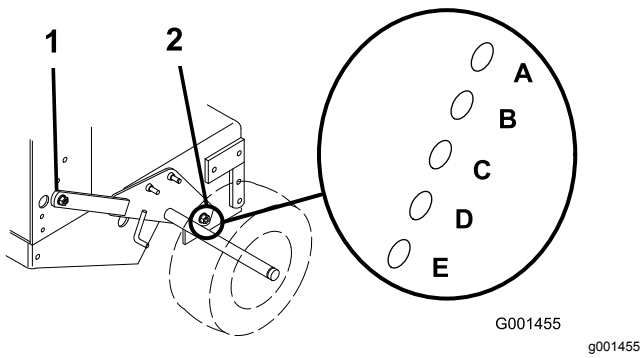

Figure 13
3. Loosen, but do not remove, the 2 axle-pivot bolts and 2 axle-adjustment bolts (Figure 13).
4. Place a jack under the rear center of the engine frame. Raise the rear end of the engine frame up enough to remove the front 2 axle-adjustment bolts (Figure 13).
5. Raise or lower the engine frame with the jack so that you can install the front 2 axle-adjustment bolts in the desired hole location (Figure 13).